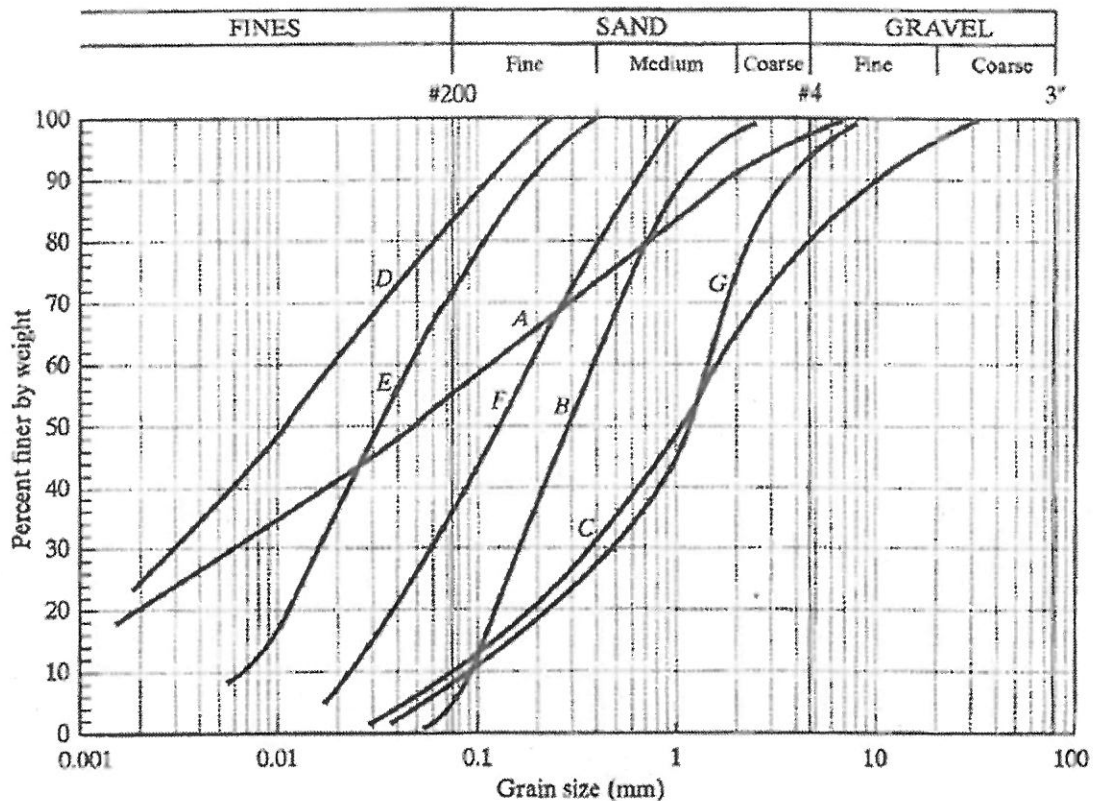

Figure 3.1: Grain-Size distribution curves
2.2) Figure 3.1 shows the sieve analysis of a fine grained soil: soil A. Atterberg limits test were effectuated on them and gave a Liquid limit of 44 and a plastic limit of 21.